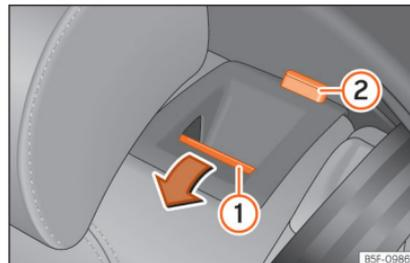

Fig. 118 Rear seat: folding the backrest.
- Press the unlock button »» Fig. 118 ① forwards and at the same time fold the backrest down. The rear seat backrest is not engaged when the red marking of the button ② is visible.
The rear seat backrest is not engaged when the red marking of the button **»» Fig. 118 ②** is visible.